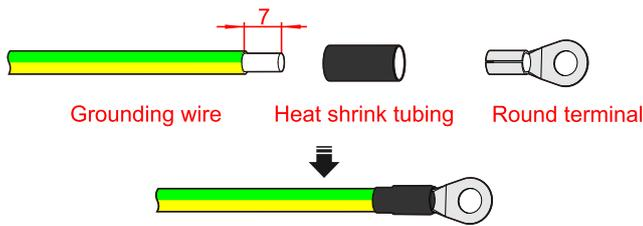

Figure3-15 Crimp the grounding wire (unit: mm)
- Step 1 Strip the insulation layer of the grounding wire by wire stripper for 7mm, and crimp it into the equipped round terminal, as shown in Figure3-15.